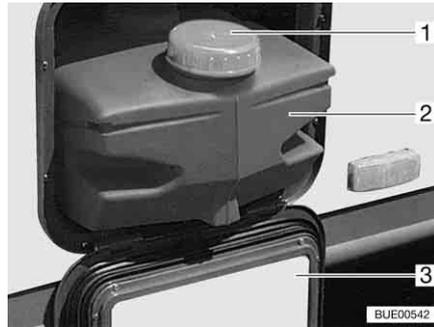

Fig. 177 Water tank 22 l
When transporting the water tank, close it with the cap (Fig. 177,1).
- Open service flap (Fig. 177,3) (see chapter 6).
- Pull out the water tank (Fig. 177,2).
- Pull out the water tank (Fig. 177,2) and empty it.